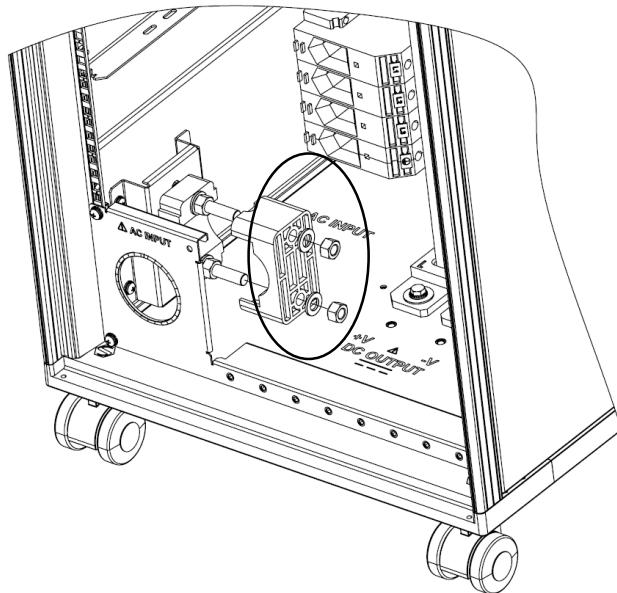

Figure 4-8: Loose Tightening Screw
1. Loose tightening nut on cable clamp in order to place AC cable through as shown in Figure 4-8.